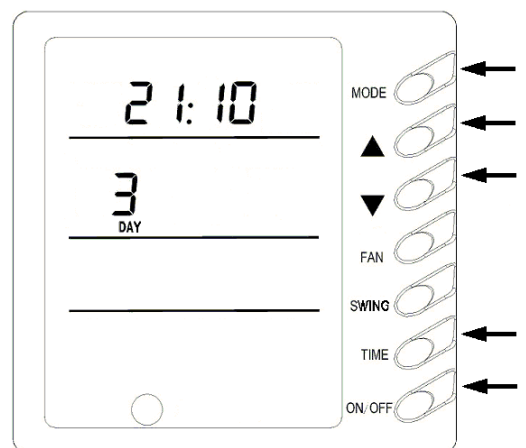

Fig.12
- ❖ In time setting mode press MODE button to select any desired setting object: Week (1-7), min. part (0-59) or hour part (0-23), and then press ▲ or ▼ button to adjust this object, which is fixed by pressing TIMER button or can be canceled by pressing Timer again. During fixing setting there must be blinking characters. During canceling setting, if there are also blinking characters, setting can be continuous till quit It by pressing ON/OFF button.(Fig.12)